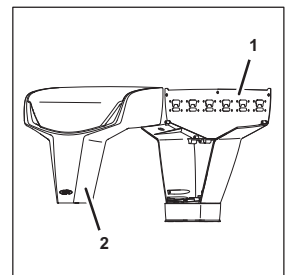

Fig. 50
2. Lift and remove the front panel (Fig. 50/2) from the rear panel (Fig. 50/1) in a forward motion.
7. Position the front panel (Fig. 50/2) on the rear panel (Fig. 50/1).